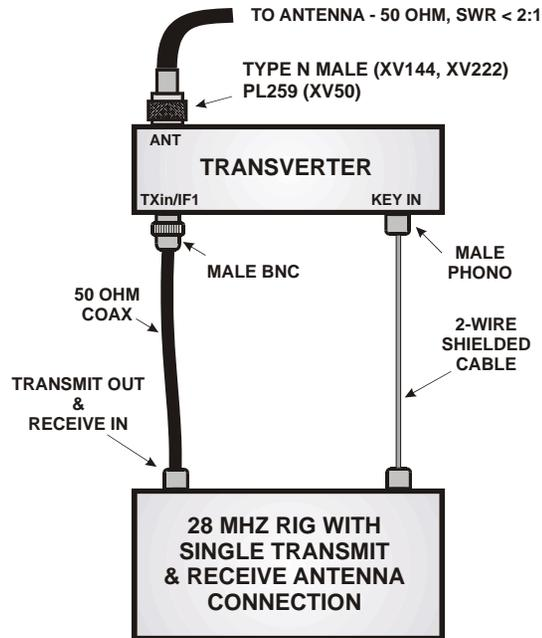

Figure 4. Connecting the Transverter to a Non-Elecraft 28-MHz Rig with a Single Transmit and Receive RF Path.
- Connect the cables as shown in Figure 4.